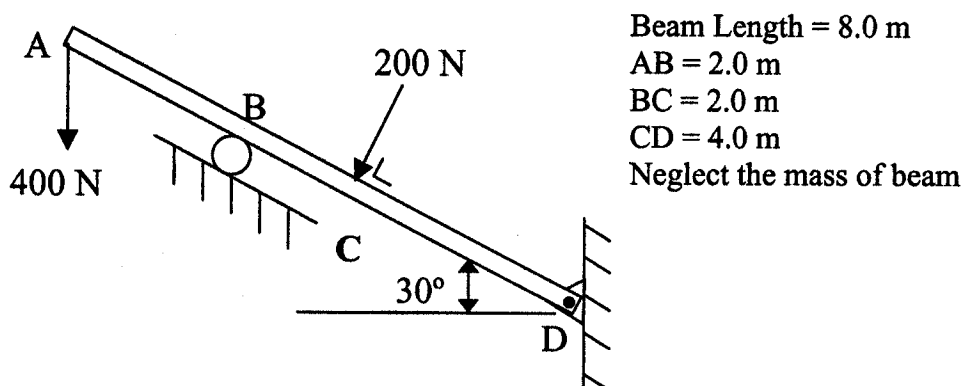

Figure 1
A beam supported by a pin joint at D, rests on a frictionless roller at B with forces applied at A and C as shown in Figure 1. Draw a Free Body Diagram and calculate the force on the roller at B. Also, calculate the magnitude and direction of the force at the pin joint at D. (12)